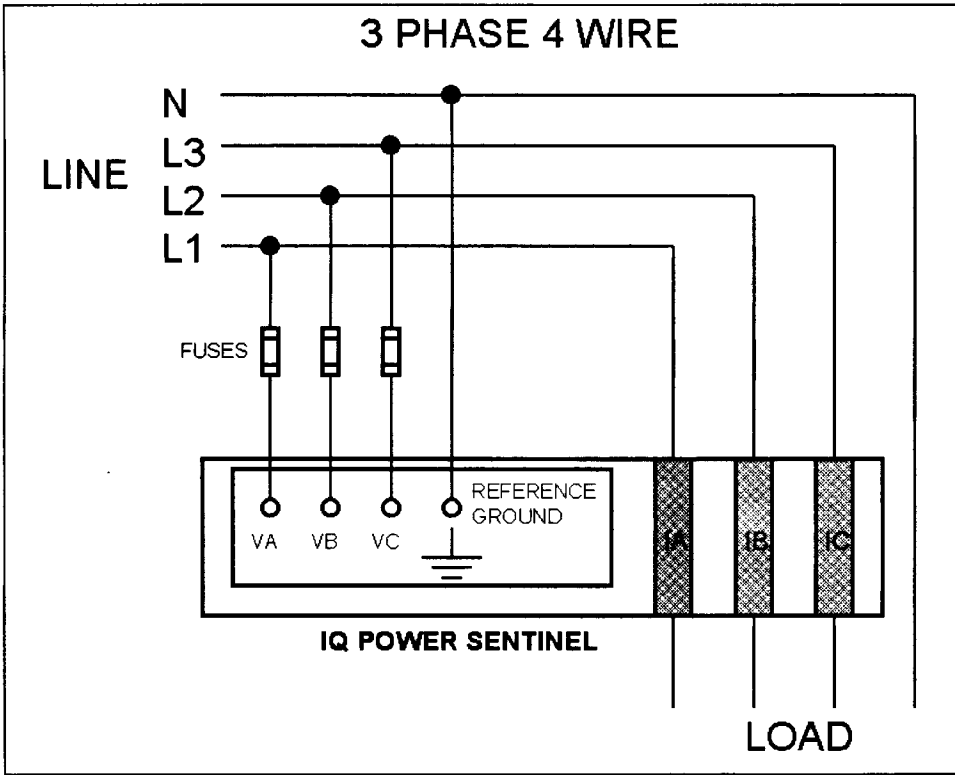
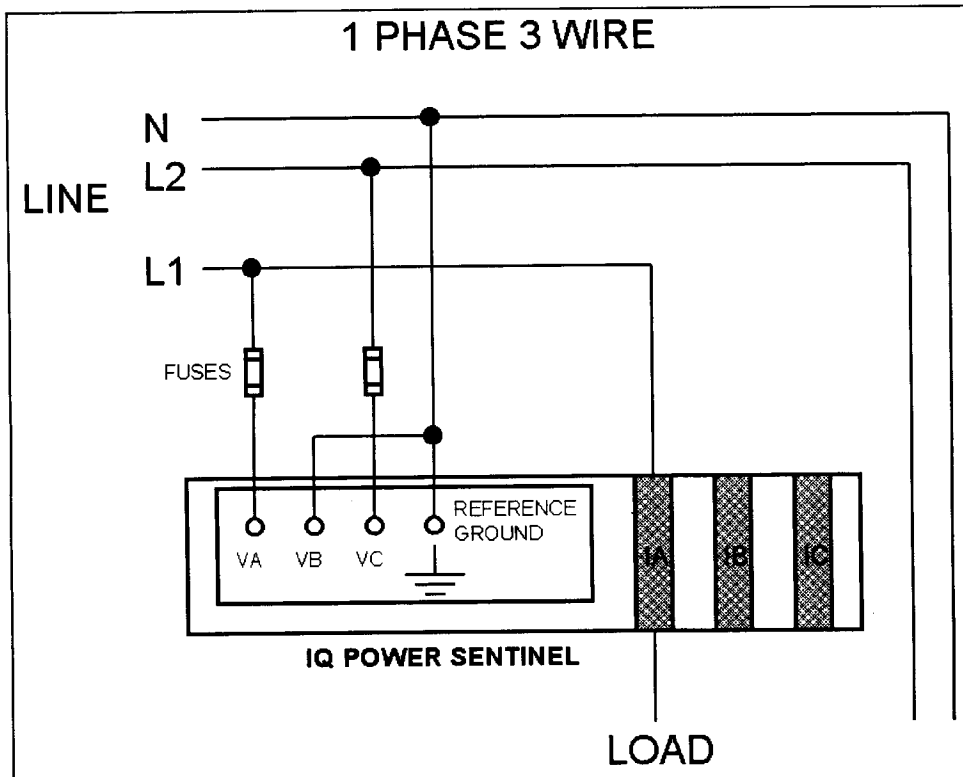

Fig. 5 3-Phase, 4-Wire Wiring Configuration
Fig. 8 1-Phase, 3-Wire Wiring Configuration
The IQ Universal Power Sentinel™ Internal CT is designed to be installed, operated, and maintained by adequately trained personnel. These instructions do not cover all details, variations, or combinations of the equipment, its storage, delivery, installation, checkout, safe operation, or maintenance. Care must be exercised to comply with local, state, and national regulations, as well as safety practices, for this class of equipment. Refer to **Figure 5** through **Figure 8** for wiring details. Also, refer to **Table 1** for voltage style selection.
External fuses should be installed near the IQ Universal Power Sentinel™ Internal CT as shown in **Figure 5** through **Figure 8**. The fuses used should be 1/10 Amp, 600 Volt, BUSS type KTK-R-1/10 Fast Acting or equivalent.
- A) Three-Phase Star, Four-Wire, Earthed Neutral (see **Figure 5**).
- B) Three-Phase Star, Four-Wire, Non-Earthed Neutral (see **Figure 5**).
- C) Single-Phase, Three-Wire, Earthed Mid-Point (see **Figure 8**).